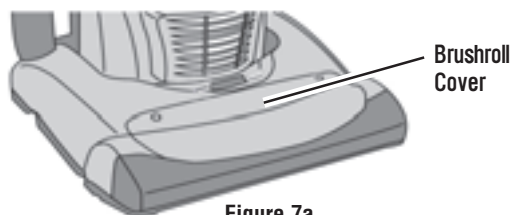

Figure 7a
2. The Brushroll Cover is secured by 2 screws on the top of the Power Head. Removing the Cover will give complete access to the Brushroll. (See Figure 7a.)